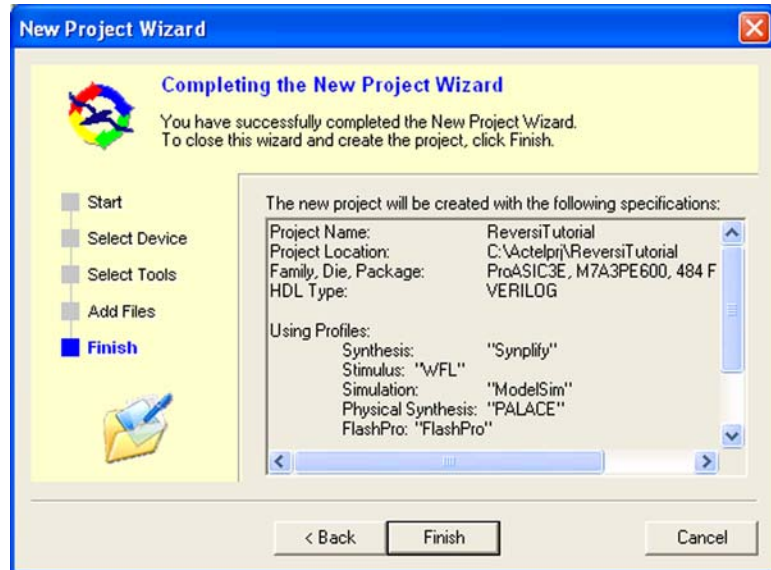

Figure 5-21. Summary in New Project Wizard
14. Review your project information. Click **Finish** to close the Wizard and create your new project (Figure 5-21). Click **Back** to return to any step of the Wizard and correct information in your project.